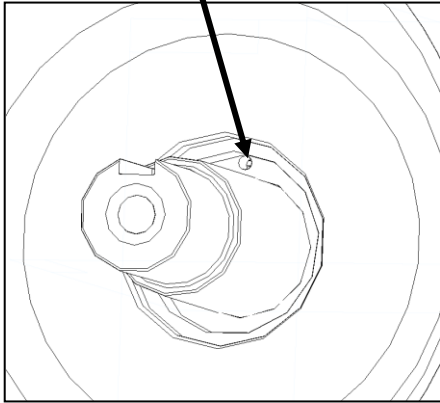
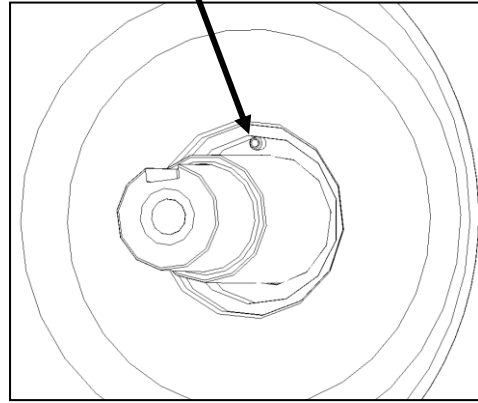
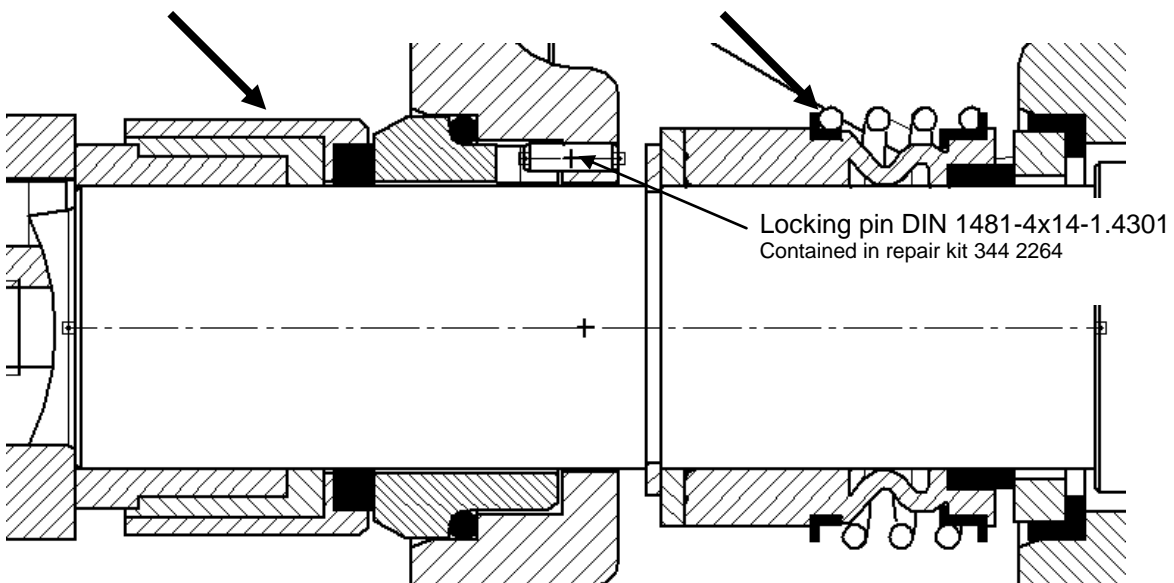

Figure 15: ESP counter-ring with lock against rotation
Figure 16: CSP counter-ring with lock against rotation
Figure 19: Installation of mechanical seal HJ 977 and MG12, motor side
- 1) The lock against rotation for the counter-ring in the seal holder only is needed for installation of the mechanical seal HJ 977 with pump type CSPH (figure 16)! For installation of the mechanical seal MG12 with pump type ESPH, no locking pin is mounted (figure 15) since it would hinder function of the seal. For installation see figure 19.